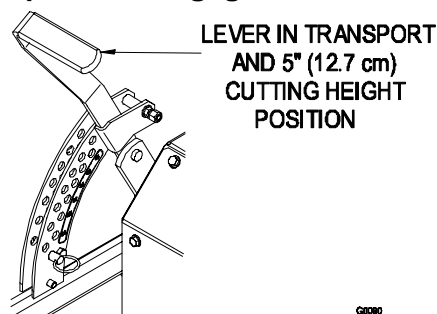
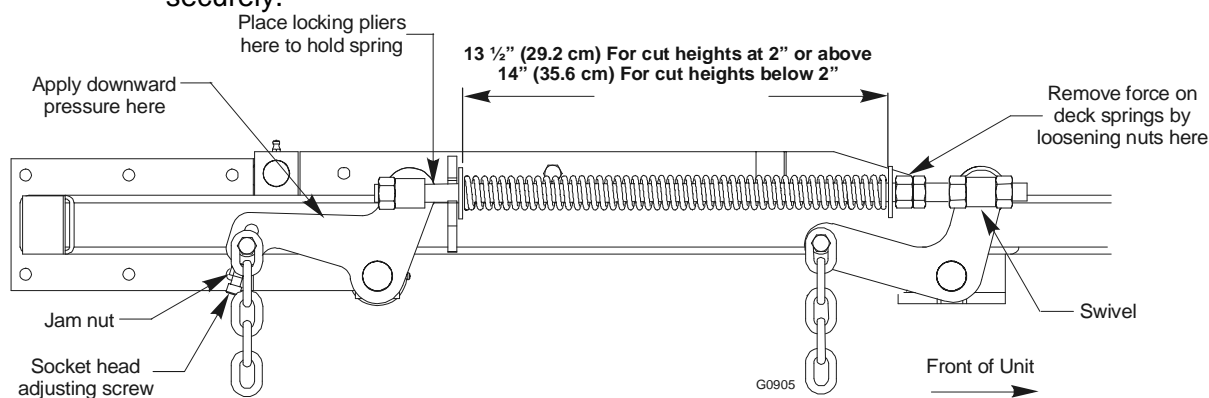

FIGURE 5
FIGURE 7
- c) Raise the deck lever to the transport position (also the 5” (12.7 cm) cutting height position). See Figure 5.
- e) Raise the deck to the 5" (12.7 cm) height position (also transport position) and take all force off of the two large deck lift springs by loosening the nuts at the front of each spring. See Figure 7.
- f) Lower the deck to the 1" (2.54 cm) height position. Force the left rear deck support arm downward about 1/4" (6.4 mm) to get the deck to rest at the 1" height position. Place locking pliers between the rear swivel and spring stop to hold the deck in this position. See Figure 7.
- g) Place a 3/4" (19 mm) thick block of wood under each of the two (2) rear anti-scalp roller brackets and place one under **one of the front center** anti-scalp roller brackets.
- h) Loosen the two (2) top chain bolts in slots in the rear deck lift arms. Loosen jam nuts and back off the socket head adjusting screws on the bottom of the arms until the chains are just loose. Turn the socket head adjusting screws in until slack is taken out of each chain. Tighten the jam nuts. Tighten the chain bolts in the deck lift arms making sure they don't move while tightening.
- i) Loosen the four (4) nuts which secure the front swivels (two per side) until the front chains are loose and front of deck is supported by the 3/4" (19 mm) block. Do not loosen the front chain hardware.
- l) Raise deck lift lever to the 5" (12.7 cm) cutting height position See Figure 5. Adjust spring compression until proper distance is obtained between the two large washers (See Figure 7). Adjustment is made by turning the nut at the front of each spring (clockwise will shorten the spring, counter-clockwise will lengthen the spring). Lock in position with jam nuts.